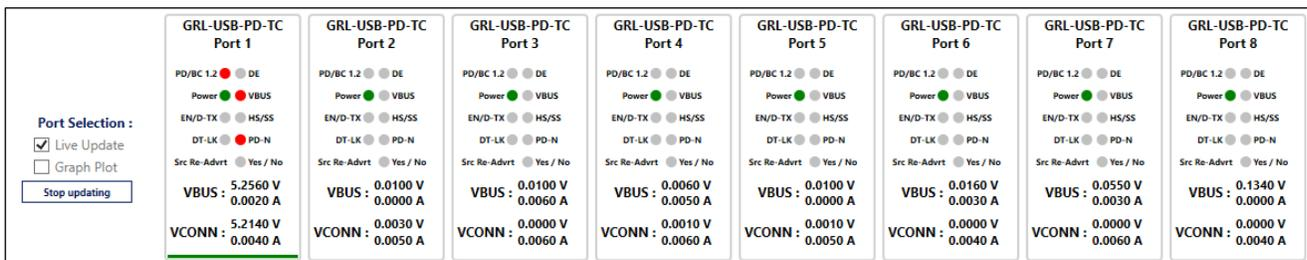

Figure 41. Check PD-N, VBUS & PD/BC1.2 LED's
2. Connect the USB Power Delivery source DUT with the GRL-SPL cable to the GRL-USB-PD-TC tester cards and verify that the PD-N, VBUS & PD/BC1.2 LED's are turned ON and glowing red, as shown in Figure 41 below.